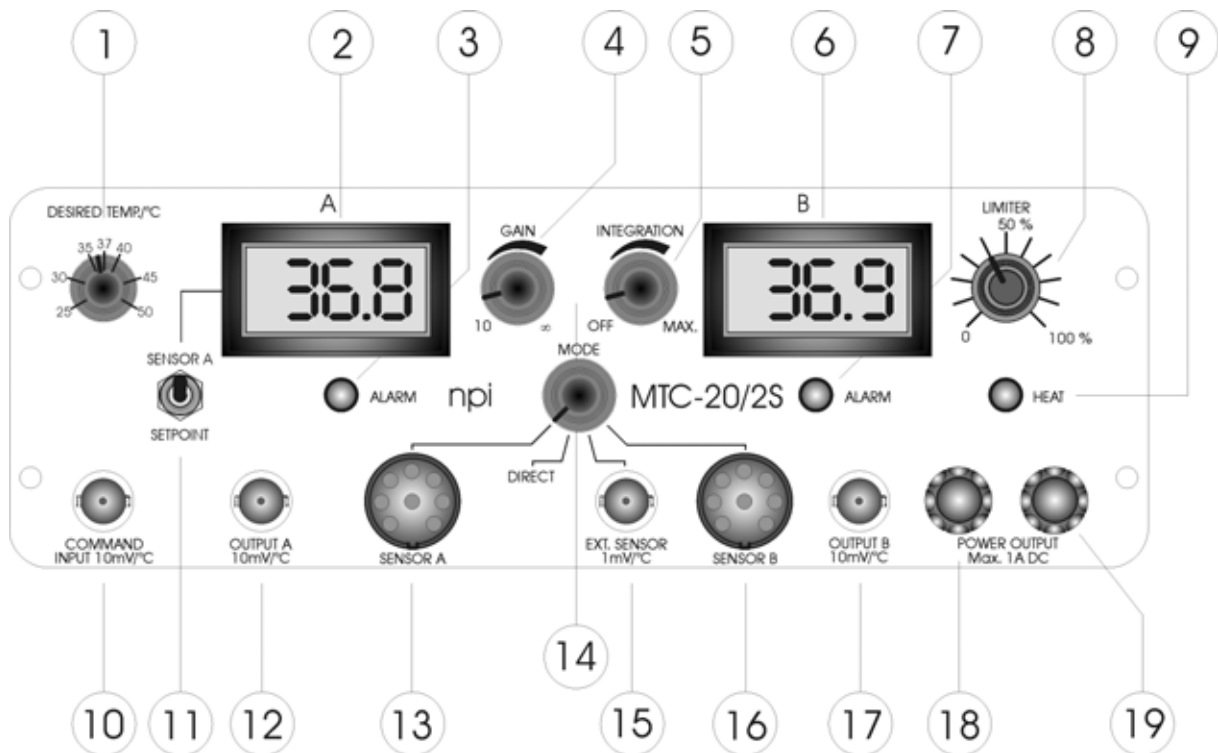

Figure 1: MTC-20/2S front panel view
In the following description of the front panel elements each element has a number that is related to that in Figure 1. The number is followed by the name (in uppercase letters) written on the front panel and the type of the element (in lowercase letters). Then, a short description of the element is given.
DIRECT mode (no temperature control): the MODE switch (**14**, Figure 1) is set to the DIRECT position. The control unit is not active, i.e. the output voltage is preset directly at the DESIRED TEMP. control (**1**, Figure 1). With the setting from 25 to 50 the output voltage increases linearly from 5 V to 12 V. The ALARM circuit (see below) is disabled in this mode.
- ❑ The SENSOR A or SENSOR B position selects one of the internal thermometers (SENSOR A or SENSOR B) which use a small semiconductor sensor. The measured temperature is shown at the respective digital display unit (2 or 6, Figure 1 respectively, XX.X °C).
- ❑ If no sensor is connected or if the sensor is damaged or short circuited the internal shut-off unit disconnects the power output. This state is indicated by the red ALARM LED (3 or 7, Figure 1 respectively) located just above the sensor connectors.
This mode can be used to connect an external thermometer. The calibration of the external input (SENS. INPUT BNC, (15, Figure 1)) is 1 mV / °C. If this option is used the internal ALARM circuit is disabled.
2. If the user wants to have external control (e.g. with a computer system) or to set the temperature to lower (<25 °C) values, the DESIRED TEMPERATURE can be set using the COMMAND INPUT 10mV / °C connector (10, Figure 1). The COMMAND INPUT is scaled 10mV / °C, i.e. +370 mV at this connector would set the DESIRED TEMPERATURE to +37 °C.